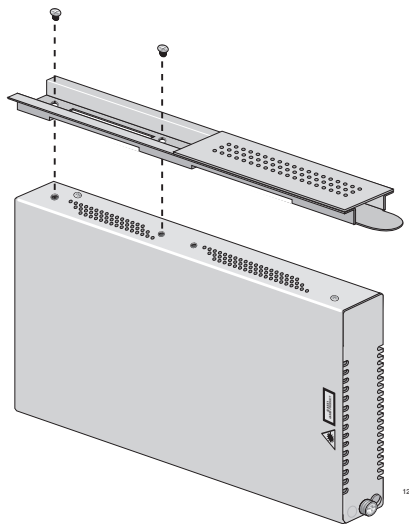

Figure 12. Installing the AT-CVMCR Adapter on the AT-CV1000 Chassis
3. Turn the AT-CVMCR adapter over, align it with the base of the chassis, and attach it to the chassis with two screws (provided), as shown in Figure 12.